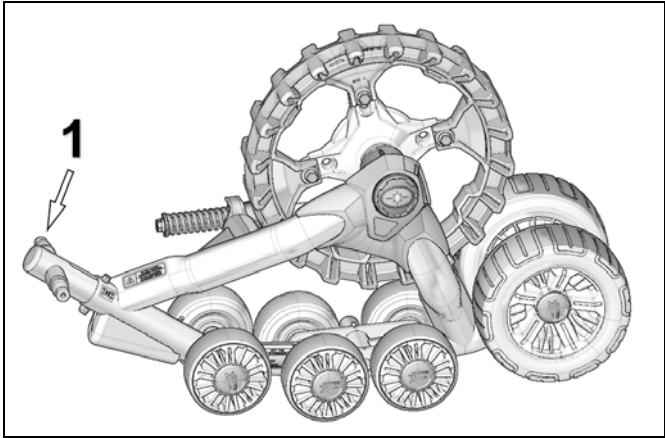

Figure 26.
- Remove the two 241 mm wheels on track tensioner. See Figure 26.